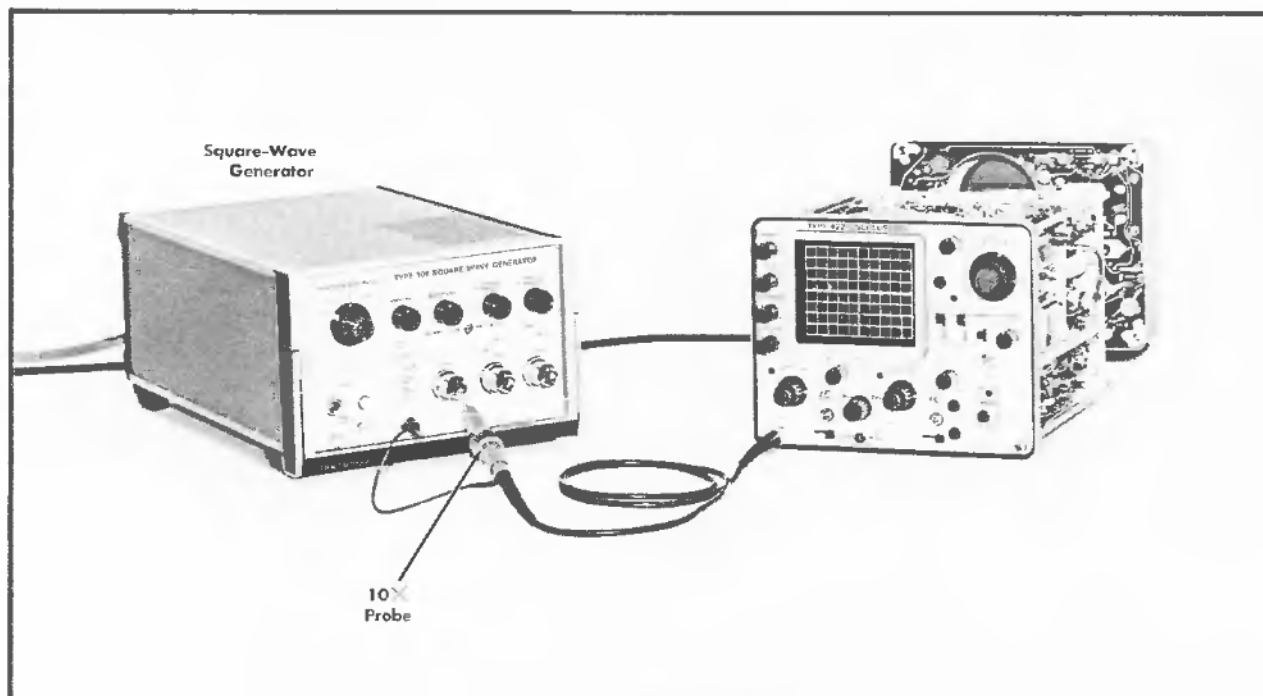

Fig. 6-21. Initial test equipment setup for steps 20—22.
- a. Test equipment setup is shown in Fig. 6-21.